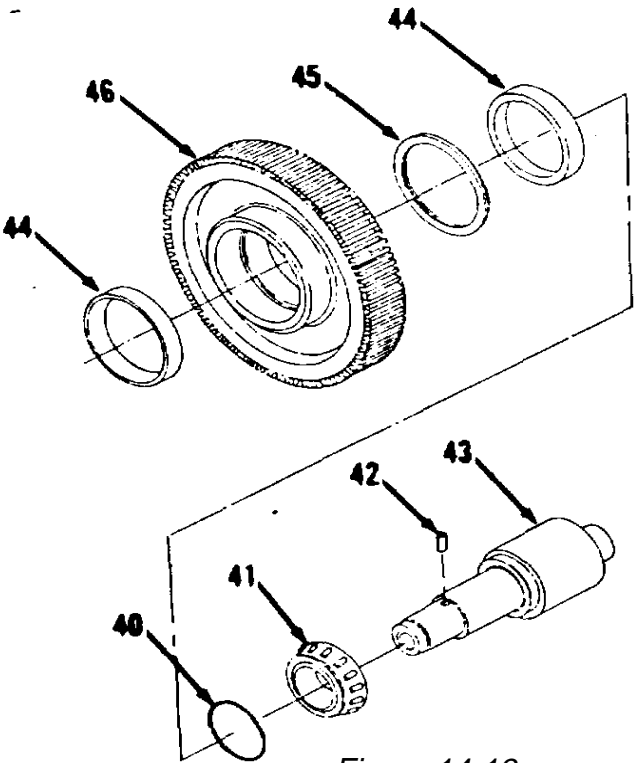

Figure 14-13.
48. Remove spacer (40), roller bearing (41) and dowel pin (42) from idler gear shaft (43, Figure 14-13).
49. Remove two bearing cups (44) and lock ring (45) from idler gear (46).